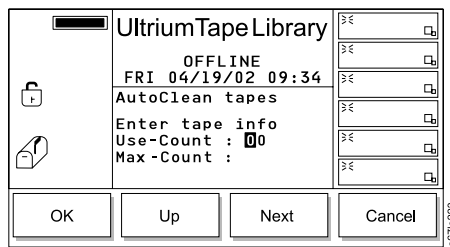

Figure 160. Set Use and Max Count Dialog
7. After the TEACH and INVENTORY (Scanning) procedures are complete, press the button below the **OK** softkey. The Set Use and Max Count Dialog displays (see Figure 160).